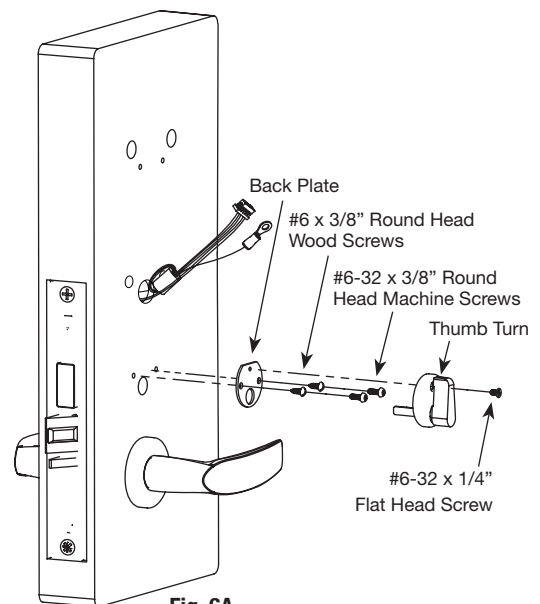

Fig. 6A
3. Secure back plate to door with two (2) #6 x 3/8" round head wood screws or #6-32 x 3/8" round head machine screws.
4. Dispose of tool, position thumb turn over back plate (Fig. 6A) and secure with #6-32 x 1/4" flat head screw.